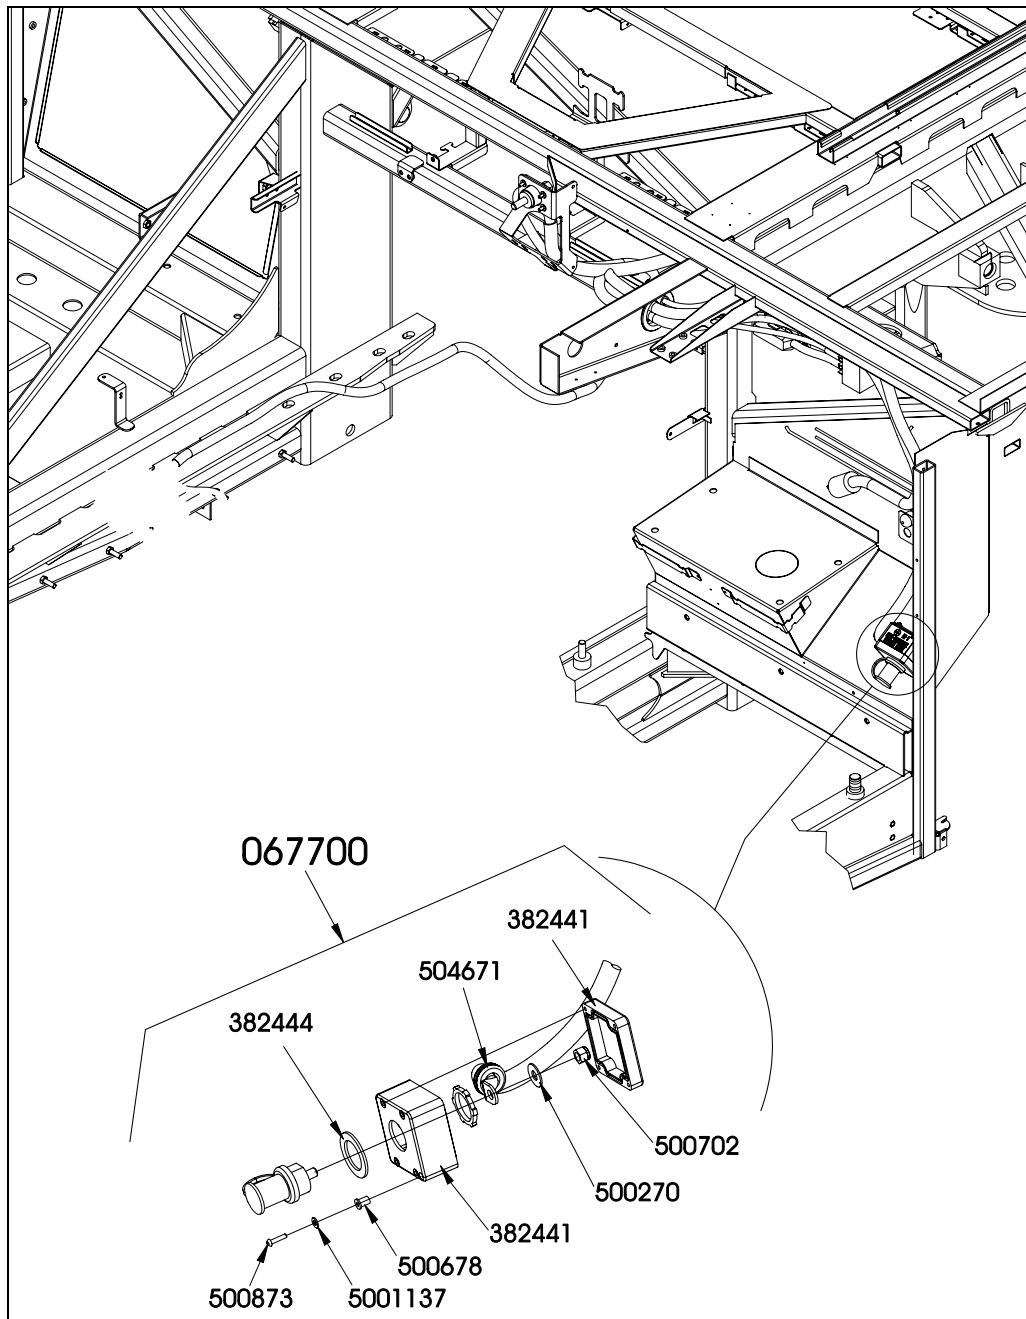

FIGURE 2
14. Affix decal (067893) onto top of protective box (Refer to figure 2)